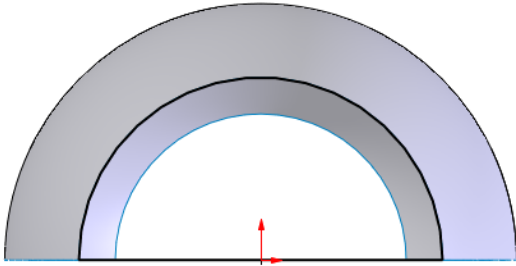

Figure 1-141 Sketch for creating the planar surface
6. Create a closed sketch to create a planar surface, as shown in Figure 1-141.